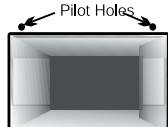

Figure 2
- 1b. Installing over a register boot without a register grill (see figure 2)